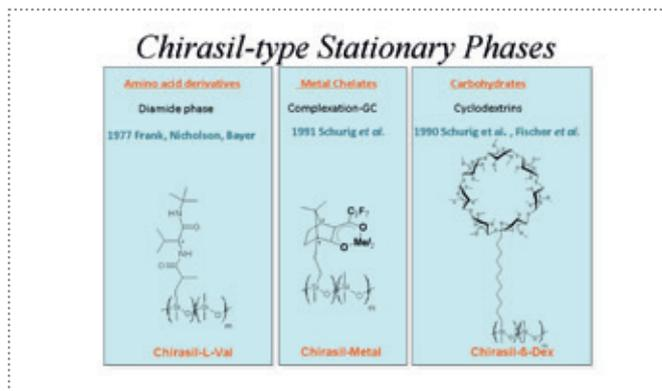

Figure 2. Development of Chiralil-type stationary phases for enantiomeric separations by GC.
(see Figure 2) thus combining the enantioselectivity of valine with the universal gas chromatographic properties of liquid silicones. On the CSP Chirasil-L-Val (coated on an 18 m x 0.3 mm ID glass capillary column) 17 proteinogenic  $\alpha$ -amino acids could be simultaneously enantioseparated as N-pentafluoropropanoyl-O-isopropyl esters in less than 30 min (13). All L-amino acids are eluted as the second fraction, but the elution order can be reversed by employing Chirasil-D-Val. Chirasil-Metal (see Figure 2, middle) can be used as the CSP in GC and supercritical fluid chromatography (SFC) (14).
In Chirasil- $\beta$ -Dex, permethylated  $\beta$ -cyclodextrin is chemically bonded via an octamethylene spacer on polydimethylsiloxane (see Figure 2, right) (14). Its temperature range extends from  $-10^{\circ}\text{C}$  to  $250^{\circ}\text{C}$ . One single column (80 cm x 0.5 mm ID) coated with thermally immobilized Chirasil- $\beta$ -Dex can alternatively be